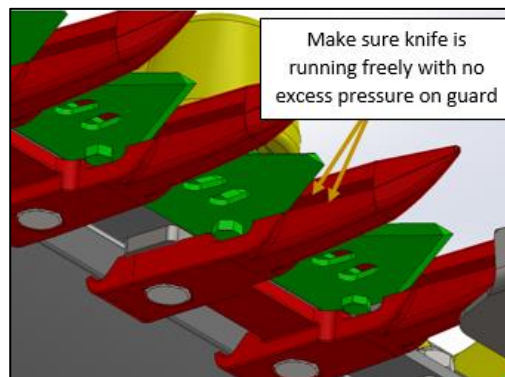

Figure 99
9. Before the knife head bearing housing mounting bolts are tightened, we need to make sure the knife head bearing housing is bottomed onto the knife head and the knife is running along the bottom of the guard. Figure 99.